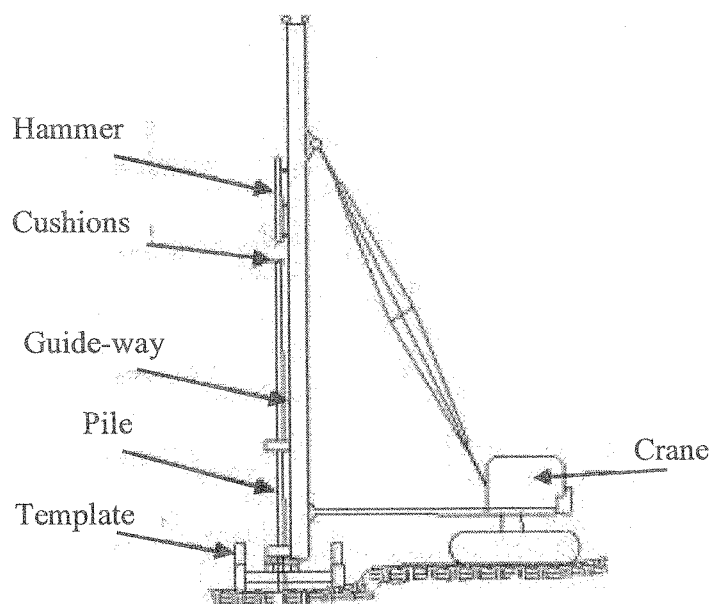

Figure Q1
- b) Figure Q1 shows a pile driving operation. The hammer is raised and allowed to fall in order to hit the pile so that the pile penetrates into soil.
- iii. What is the purpose of having a "cushion" shown in the Figure Q1?